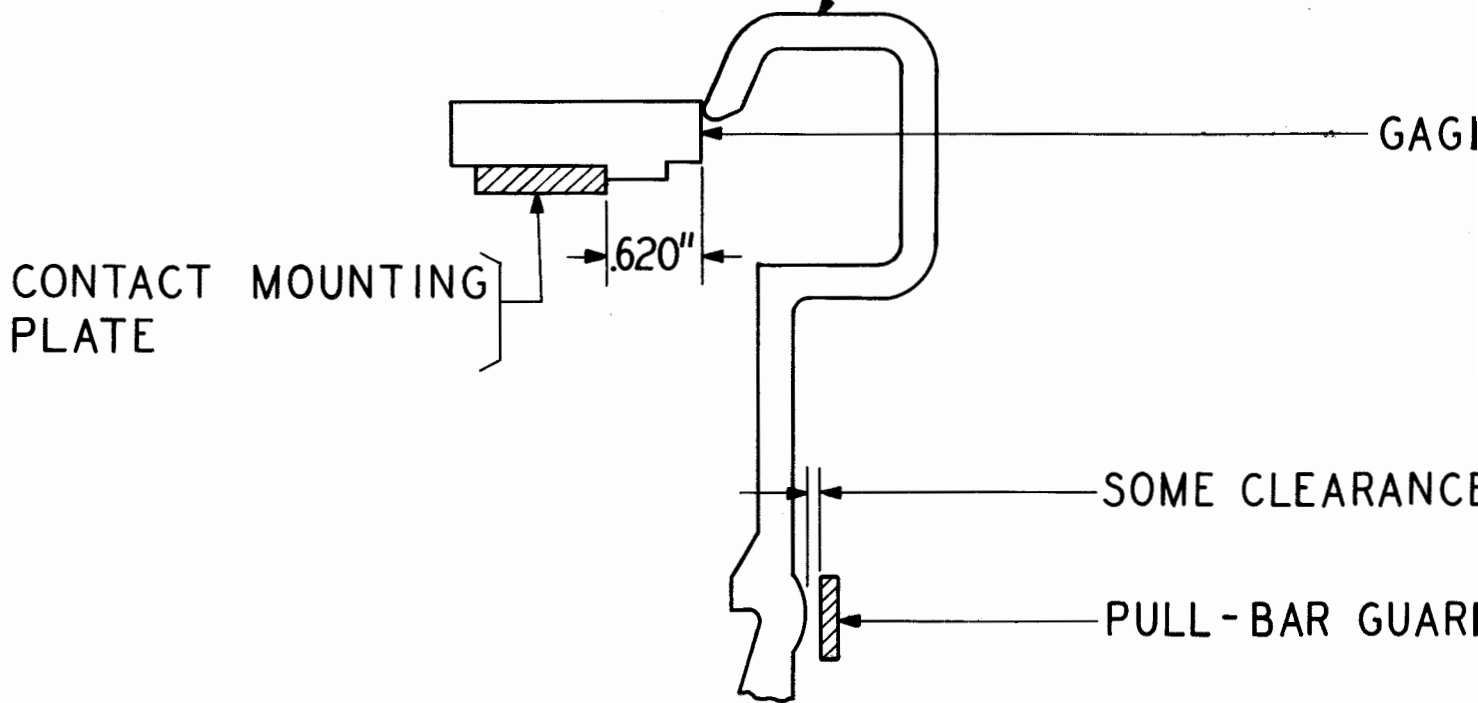

Figure 25
2.39 Pullbar Guard shall meet the following requirements with the mainbail in its lowest position. See Figure 25.
- (b) The clearance between the toes of the two end and one middle pullbar-hooks and the front of the contact mounting-plate shall be as close as possible to that shown in Figure 25.